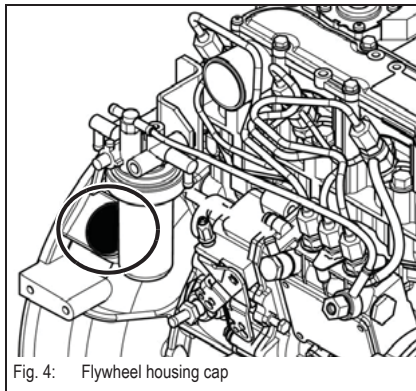

Fig. 4: Flywheel housing cap
- Remove the cap on the flywheel housing, see Fig. 4